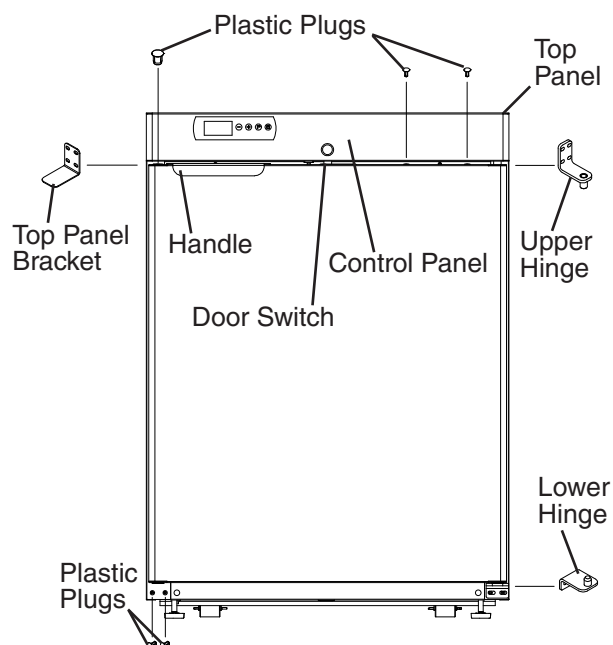

Fig. 3
- 2) Remove the fasteners securing the top panel. See Fig. 3. Being careful not to pull on the wires to the control panel and door switch, lift off the top panel. Secure the top panel so that it does not interfere with the upper hinge or top panel bracket and will not fall.